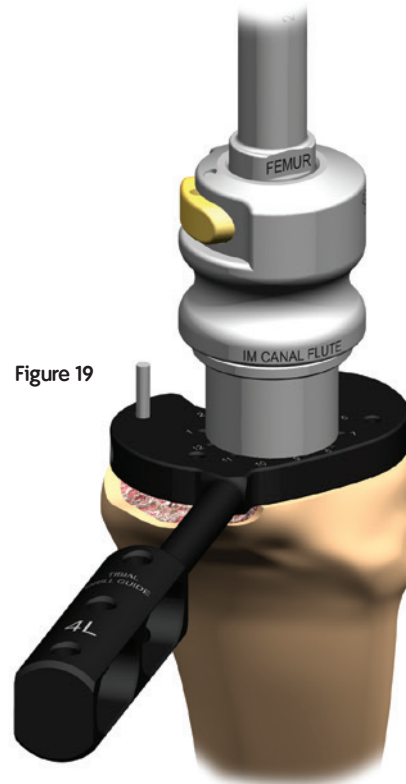

Figure 19
Depress the button on the counterbore depth stop and slide the depth stop over the Reamer with the "IM CANAL FLUTE" marking towards the cutting end of the Reamer. Then attach to the power drill. Position the Depth Guide to the "FEMUR" marking (Figure 19).
10. Insert the Counterbore Reamer Assembly into the Guide Bushing and ream until the depth stop makes contact with the Guide Bushing (Figure 19). Remove the Counterbore Reamer Assembly.